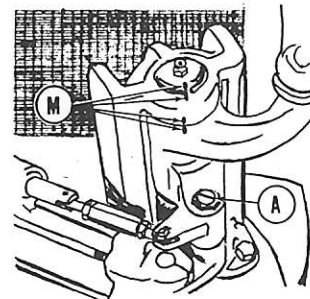

Fig. 32—On Model MF150, match marks (M) should be made on pedestal components before unit is disassembled. Refer to text for procedure.
refer to Fig. 32. Turn wheels to a straight-ahead position, turn adjusting screw (A) clockwise in actuating arm until it bottoms; then punch-mark actuating arm, pedestal bracket and shaft as shown at (M), so parts can be correctly reassembled.